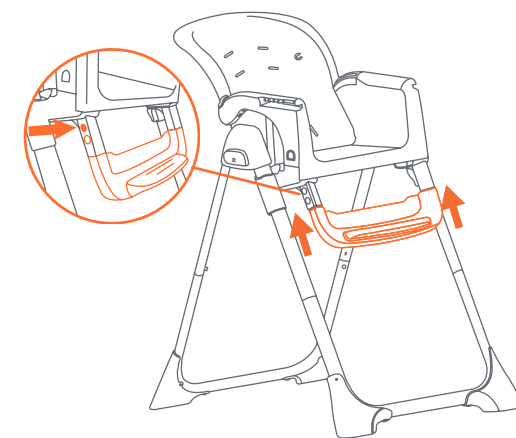

Fig. 6
- 6) • Slide the Footrest into the Height Bracket (Fig. 6). Lock Footrest into place.
**NOTE:** Adjust the height of the footrest by squeezing both tabs simultaneously and lift up (Fig. 6).